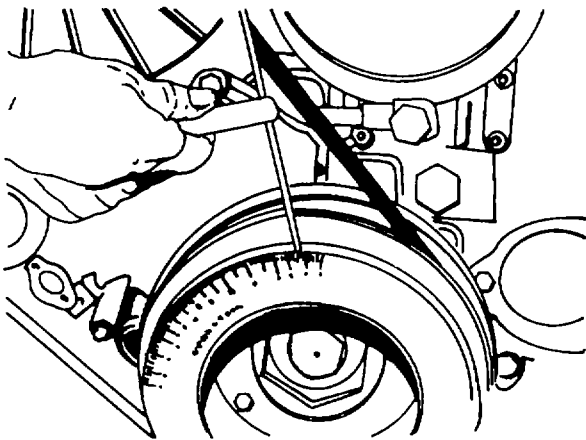

Figure 4-47. Securing Graduated Scale to V-Belt Pulley
5. Secure graduated scale (003-0677) to V-belt pulley and fix pointer to dowel sleeve (figure 4-47).